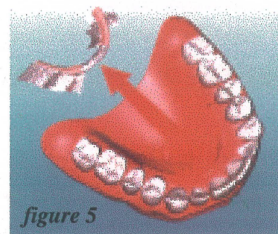

figure 5
4. Press the tin foil into the bottom of the groove cut in the prosthesis and form into the required shape. Cure in a pressure pot. See figure 5. For a **new denture**, make a putty matrix of the size and shape for the fibers. Put the fibers in a thin mix of resin in the putty matrix and let set.